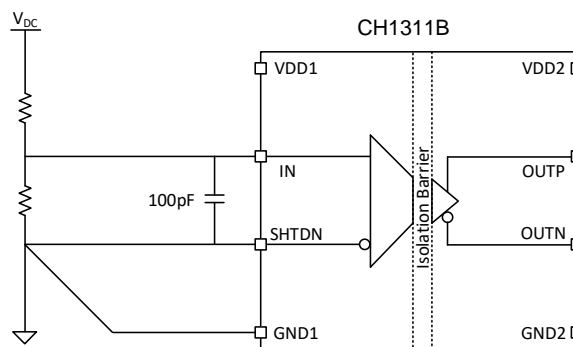

Figure 23. Input Filter Design
- Most voltage-sensing applications use high-impedance resistor dividers in front of the isolated amplifier to scale down the input voltage. In this case, a single capacitor (as shown in Figure 23) is sufficient to filter the input signal.